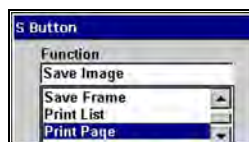

Figure 5-59 Sample S Button dialog box
2. Press **Y/✓** to open the dropdown list (Figure 5-59).